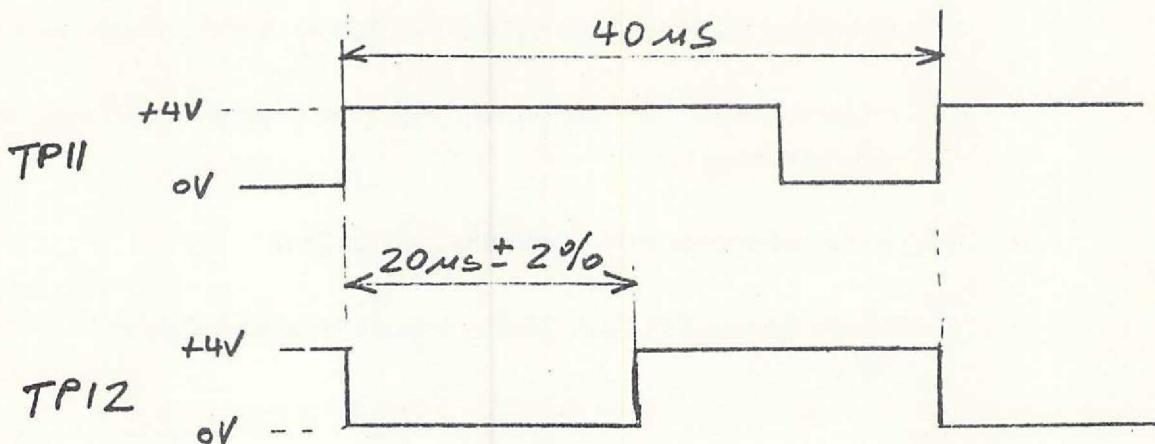

FIGURE 5-25. 90° LOCK DUTY CYCLE SETTING
- 1) Set the signal at TP12 with R104 to obtain a 50 percent duty cycle as follows in Figure 5-25.